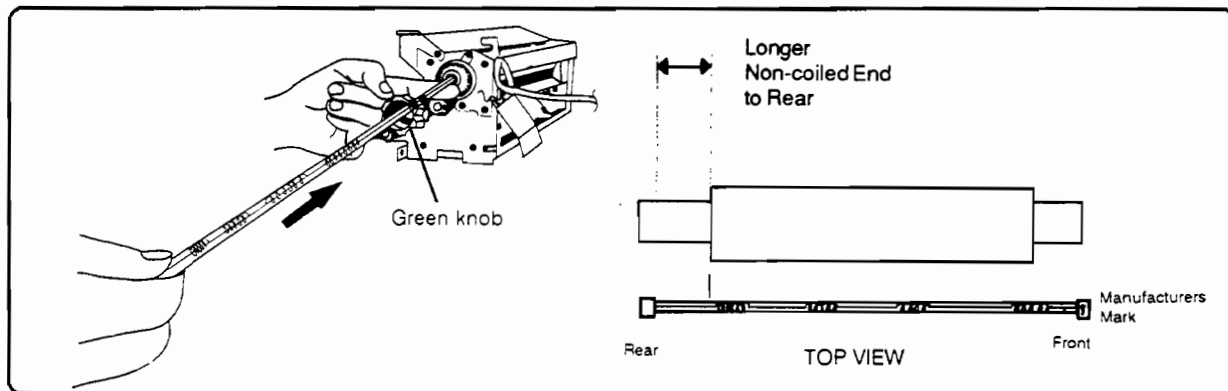

Figure 6-81. Roller Heater Lamp Installation
2. Be sure to install the heater so that the manufacturer's mark is toward the front (see Figure 6-81).